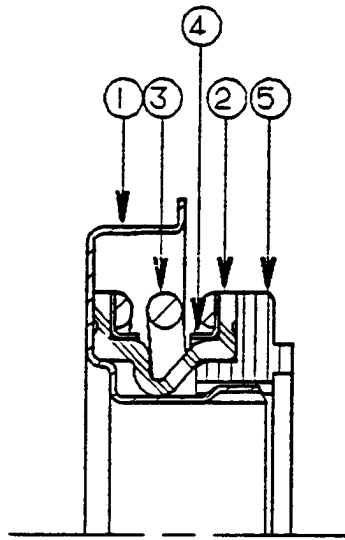

FIGURE 1—SPRING-LOADED
1. **Scope**—This SAE Standard outlines physical dimensions and nomenclature for the sizes of seals commonly used in engine coolant pumps of automotive type engines. Its purpose is to define a standard envelope to accommodate installation of various seal designs and to promote uniformity in seal nomenclature. (See Figures 1 to 5.)
3. **Nomenclature for Figures 1 to 5**